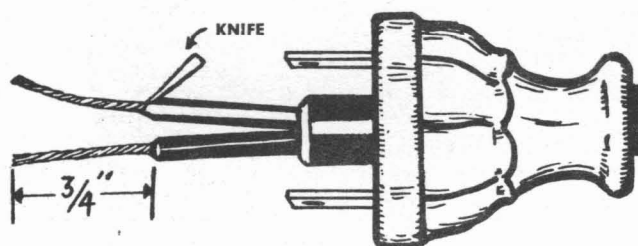

Figure 1 (Ready to Wire Plug)
3. Pass one end of the new cord through the center of the plug. Strip 2 inches of the fabric insulation off cord, or in case of a rubber cord, split cord back two inches. Be sure no bare wire shows in long split section (Figure 1).
4. Use knife to strip insulation off wire for $\frac{3}{4}$ " on end of each cord. Be careful. Don't cut yourself. Don't cut wires. Use a light touch, slope the knifeblade and slice with knife edge away from you (Figure 1).